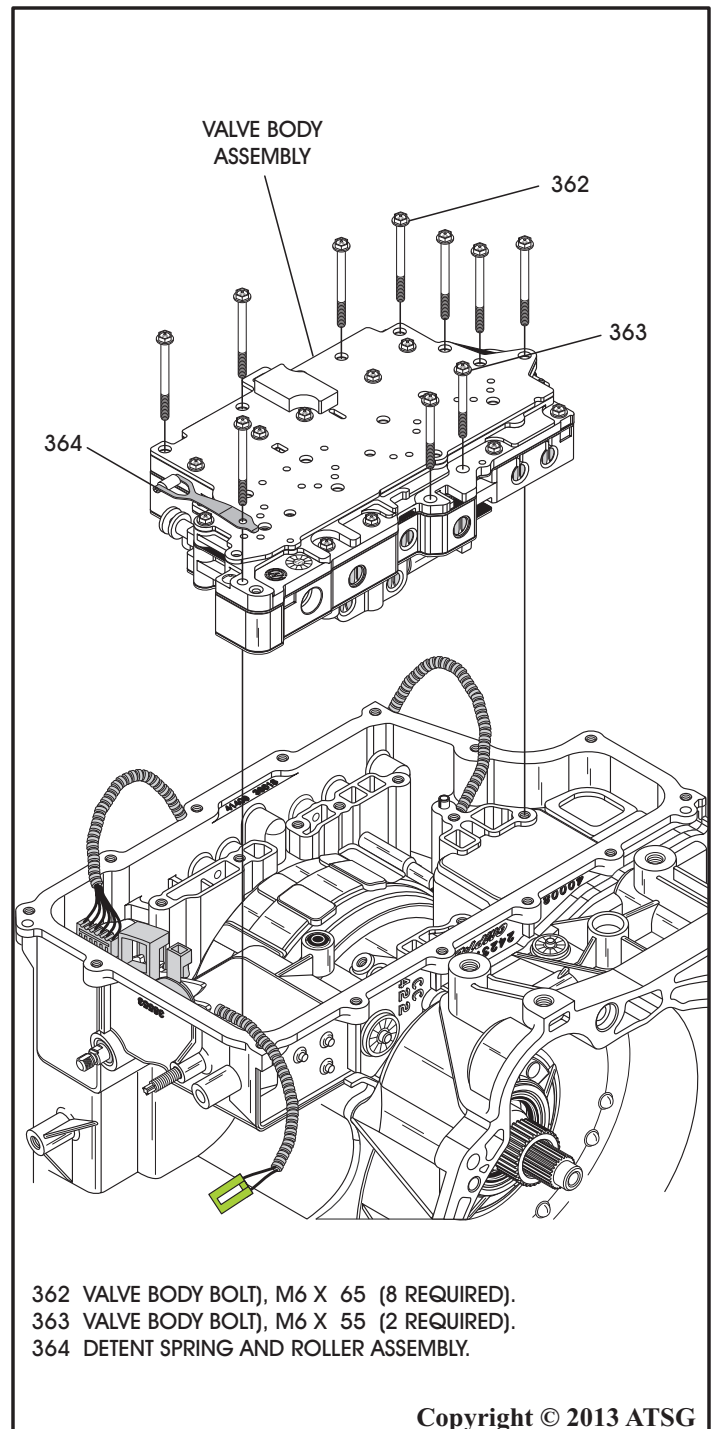

Figure 51
18. Remove the detent spring and roller assembly, as shown in Figure 51.
19. Remove the valve body assembly, as shown in Figure 51.